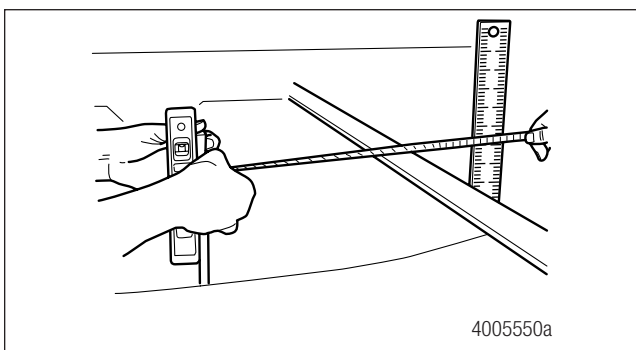

Figure 14.28
3. Measure the distance from the center of the transmission universal joint to the frame rail. Use a carpenter's square or other straightedge if needed. Figure 14.28.
4. Measure the distance from the center of the carrier universal joint to the frame rail. Use a carpenter's square or other straightedge if needed. Figure 14.28.